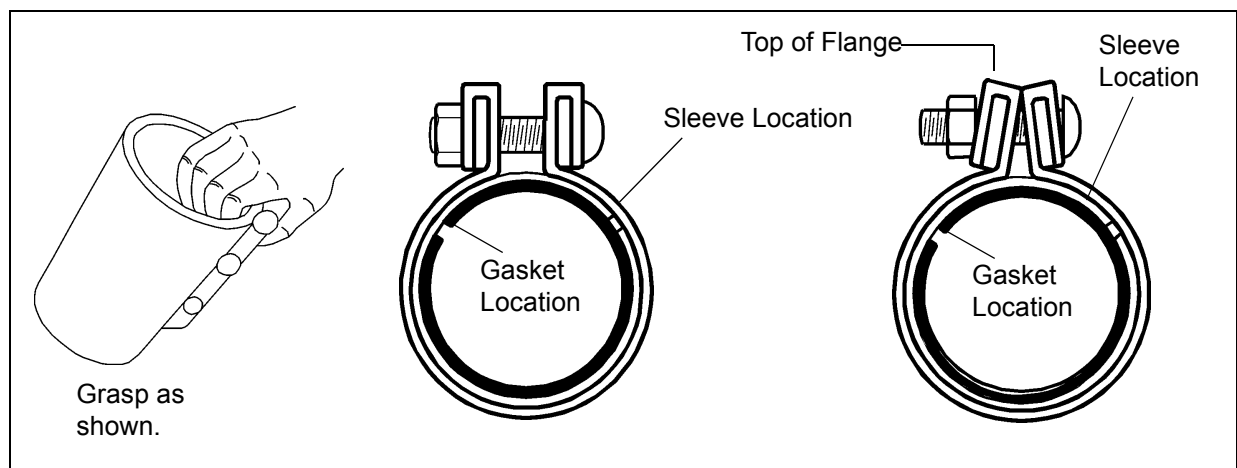

Figure 10A
1. Couplings are shipped ready-to-install... do not disassemble. To prevent gasket from slipping out of proper position, always grasp coupling as shown in Figure 10A. This will save time by maintaining proper position of gasket and sleeve in relation to shell and flange.
3. Grasp coupling as shown in Figure 10A to keep gasket and sleeve (and gasket protector when used) in separate quadrants, as shown in Figure 10A. Be sure gasket teeth mesh and do not overlap.
7. When properly and evenly tightened to the recommended torque the coupling installation is complete. The top edges of the flanges will touch and flanges appear as a vee when viewed from the end, as shown in Figure 10A. **DO NOT** attempt tightening bolts to flatten flange faces together, as this exceeds recommended limits.